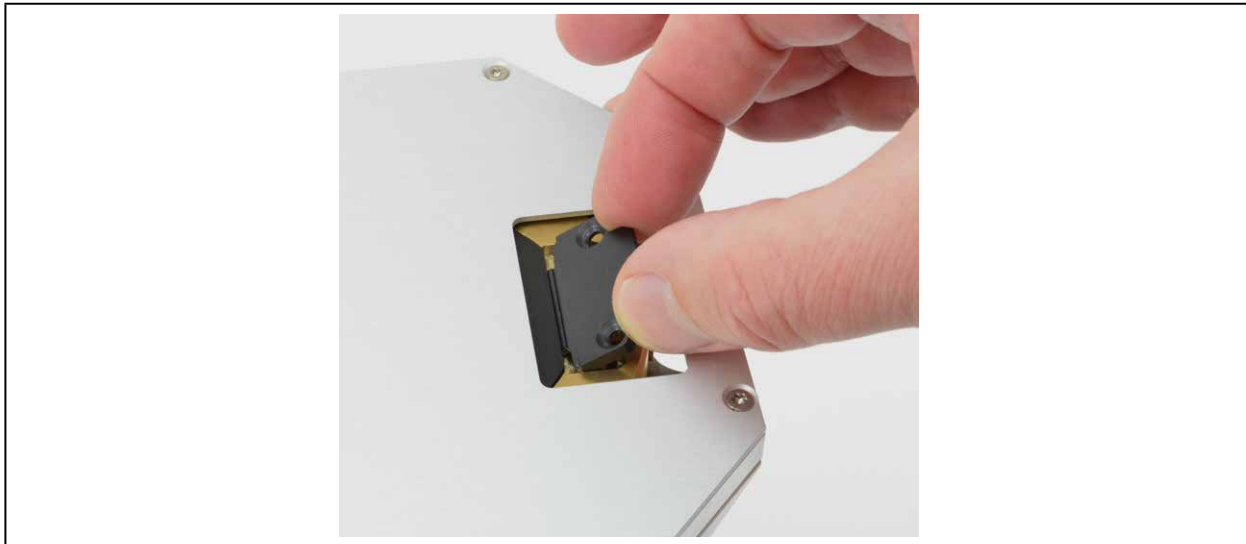

Fig. 14.5: Putting in the retaining plate
9. Put the retaining plate into the rotational disc with an angle of about 45 degrees, ensuring that the guide groove is pointing upwards. Then it has to be pushed down into the recess (please see Fig. 14.5).